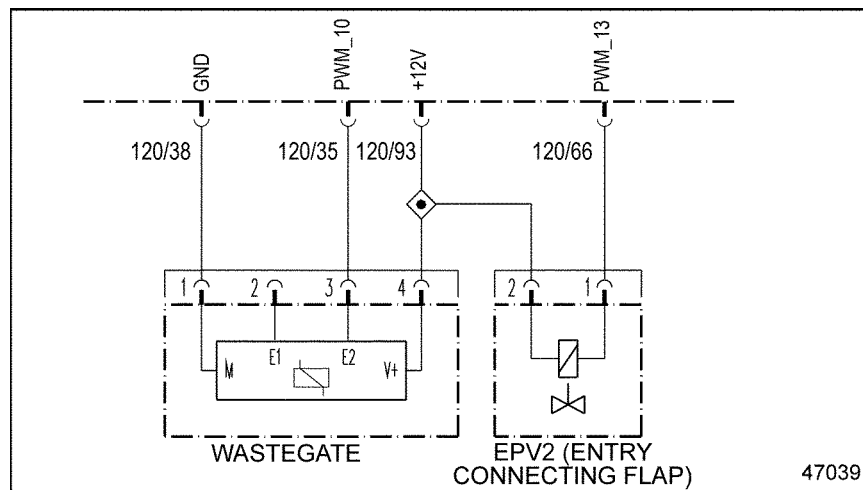

Figure 31-1 Wastegate
- [b] If the voltage is less than 11.5 volts, go to step 4. See Figure 31-1.